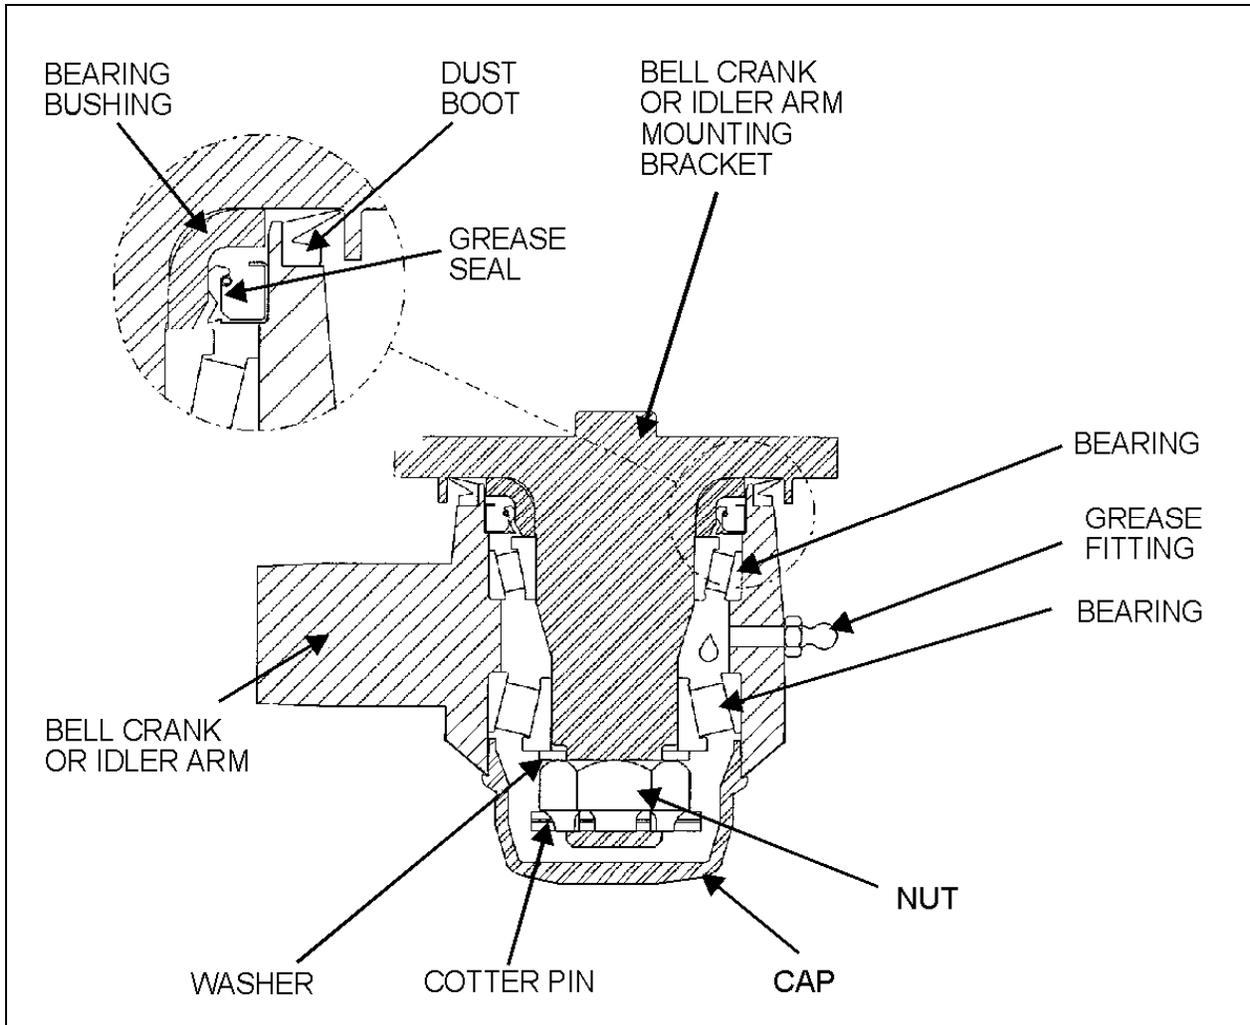

FIGURE 8: BELL CRANK AND IDLER ARM BALL JOINT
2. Remove the cap (Fig. 8).
3. Remove the cotter pin, nut and tongue washer. Remove bearings, grease seal, bearing bushing and the bell crank or idler arm from its mounting bracket stud (Fig. 8).
2. Install bearing and grease seal in bell crank or idler arm eye (Fig. 8).
Note: Install grease seal according to figure 8. Grease must be able to exit the bell crank or idler arm mechanism. For grease seal installation use tool Prévost # 110683.
3. Install bell crank or idler arm on its mounting bracket stud (Fig. 8).
Note: Bend cotter pin around the nut (Fig. 8). Do not bend the cotter pin in the direction of the cap, because it may interfere with the cap.